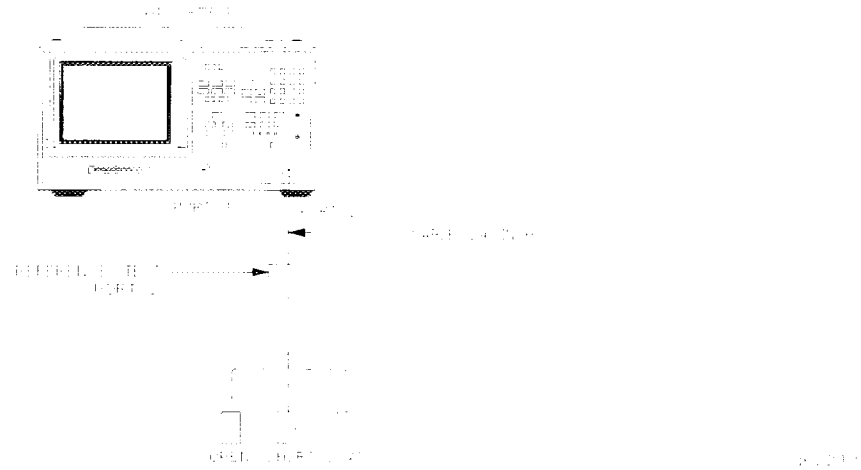

Figure 4-28. S22 1-Port Cal Test Setup
- 17** Connect the equipment as shown in Figure 4-28.
- 19** At the prompt, connect an open to reference test port 2, as shown in Figure 4-28.